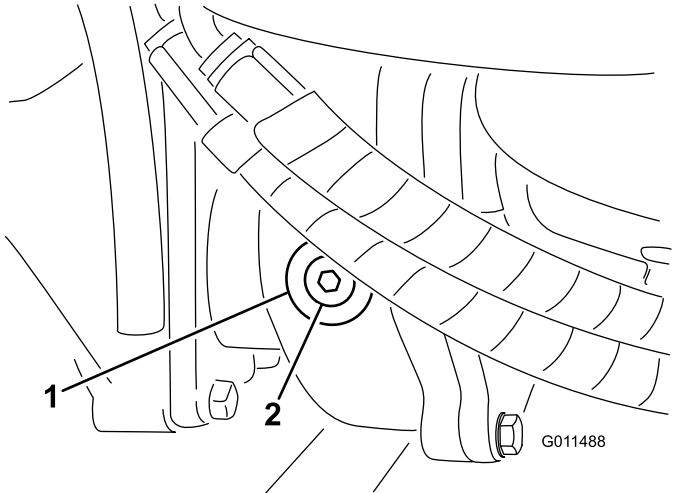

Figure 95
2. Remove the check/fill plug from the left side of the gear box (Figure 95) and make sure that lubricant is up to the bottom of the hole. If the level is low, add enough lubricant to bring the level up to the bottom of the hole.